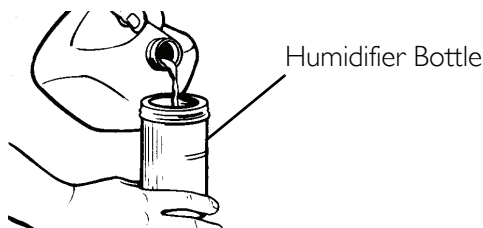
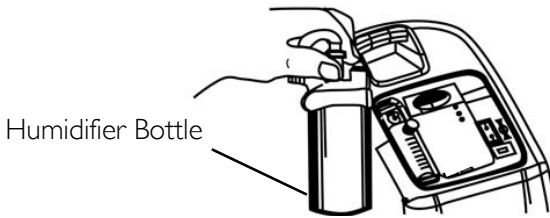
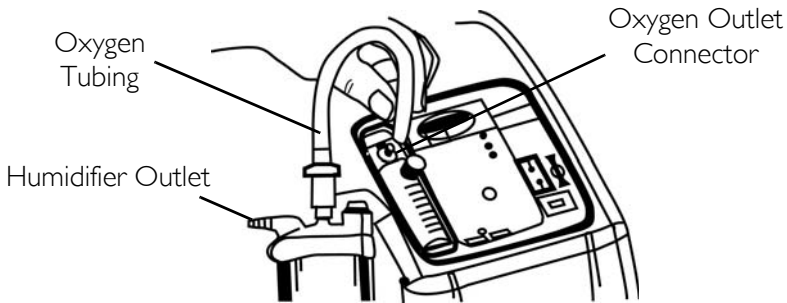

FIGURE 5.1 Filling the Humidifier
FIGURE 5.2 Humidifier Compartment
FIGURE 5.4 Attaching the Oxygen Tubing
NOTE: For this procedure, refer to FIGURE 5.1, FIGURE 5.2 and FIGURE 5.3 on page 18 and FIGURE 5.4 on page 19.
7. Attach oxygen tubing from the humidifier bottle to oxygen outlet connector on the oxygen concentrator (FIGURE 5.4).
8. Attach the cannula/patient supply tubing to the humidifier bottle outlet (FIGURE 5.4).